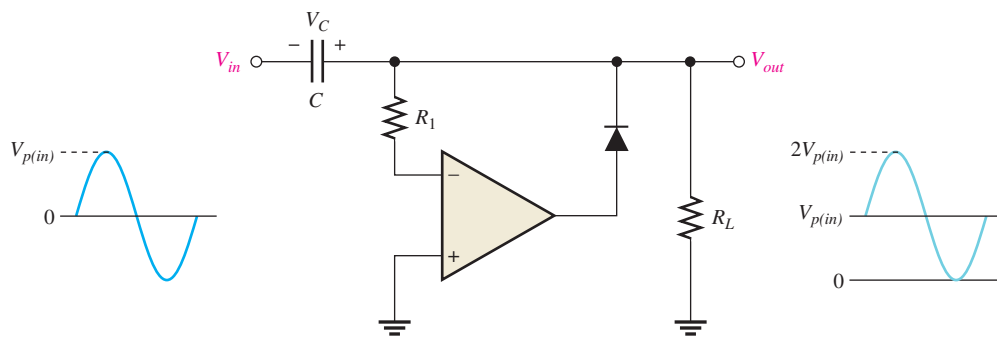

FIGURE 28
**An Active Clamping Circuit** A positive clamper with an op-amp and a diode is shown in Figure 28. This circuit overcomes a couple of disadvantages of the passive clamper. The use of the op-amp eliminates the  $-0.7$  V peak found in the positive passive clamper output, and it prevents loading the input source when the diode is forward-biased.
The operation is as follows. On the first negative half-cycle of the input voltage,  $V_{in}$ , the differential input is positive, which produces a positive output voltage. Because of the feedback loop, the positive op-amp output voltage forward-biases the diode, allowing the capacitor to quickly charge. The maximum voltage across the capacitor occurs at the negative peak of the input with the polarity shown in Figure 28. This capacitor voltage adds to the input voltage so that the minimum peak of the output voltage,  $V_{out}$ , is at 0 V as indicated.